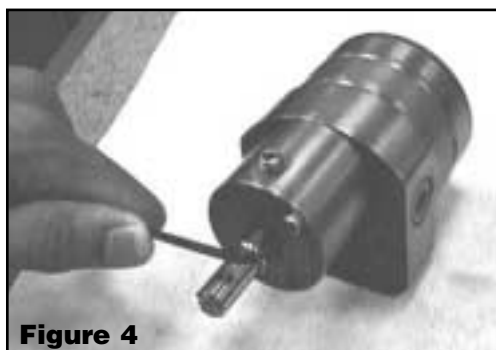

Figure 4
2. Remove the square key (17) from the shaft end.
3. If applicable, remove the socket head screws (18) from the seal housing (11). See Figure 4.
4. Lift off the seal housing (11). Take care to also remove the o-ring (33) which seals the housing to the front plate. The ring may be attached to the front plate.
5. Remove the seal (51) [item 13 on 4.5 & 9 cc/rev pumps] from the seal housing (11).